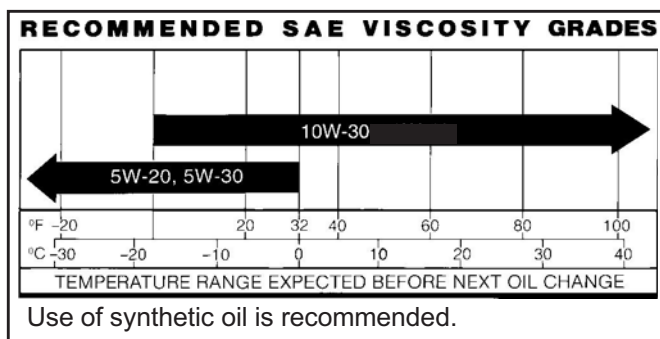

Figure 2. Viscosity Grades Table.
1. Be sure to use the proper oil for the temperature expected. See Figure 2 on page 4.